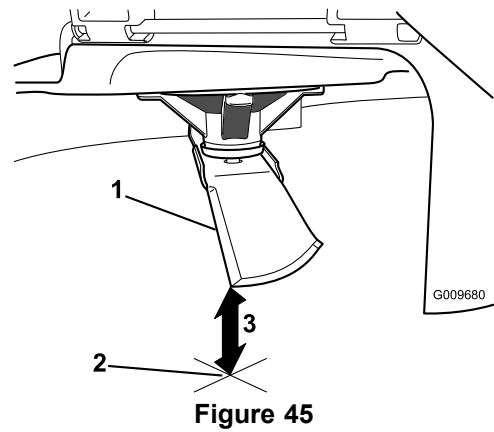

**Figure 44**
3. Measured distance between the blade and the surface (A)
4. Rotate the same blade 180 degrees, so that the opposing cutting edge is now in the same position (Figure 44).